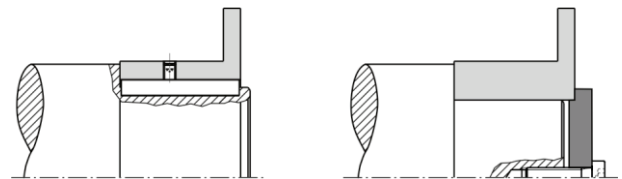

Fig. 6
The disk pack (2) is always to be inserted in such a way that the collar bushing radius (part 2a, Fig. 6, detail "X") lies in the hub grooves, the sleeve grooves or the connection plate grooves.
In order to prevent axial distortion of the disk packs, the dimension "S" (Fig. 6, detail "X", Table 1) must be maintained with aligned angular and radial shaft misalignments.